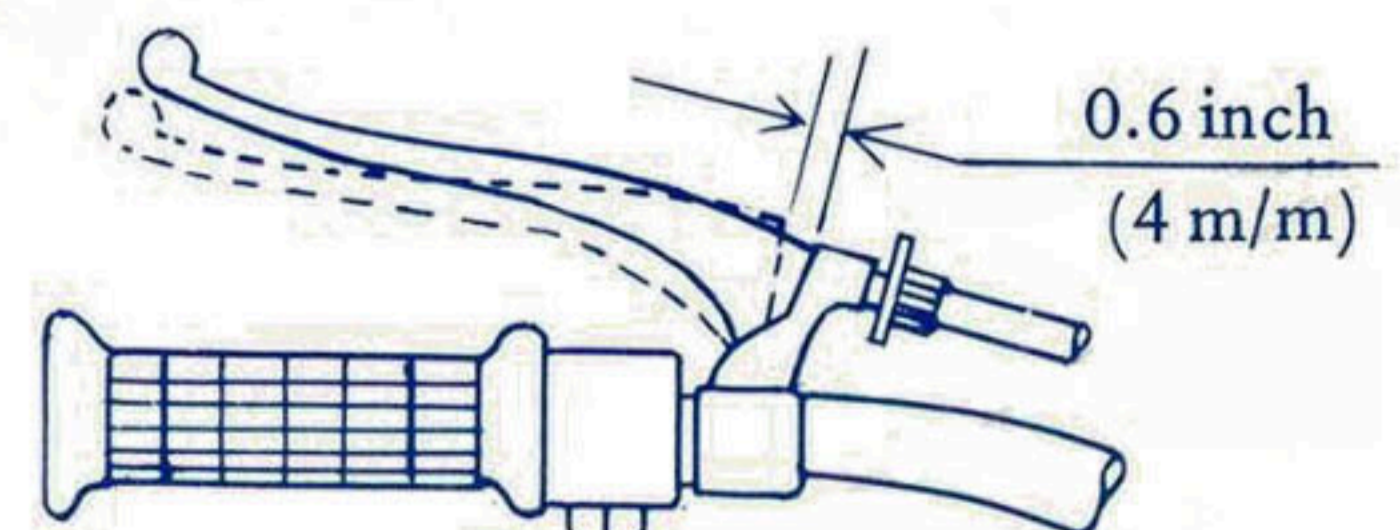

Fig. 28
2. Adjust clutch lever play to about 0.16 inch (4m/m) as shown in fig. 28.